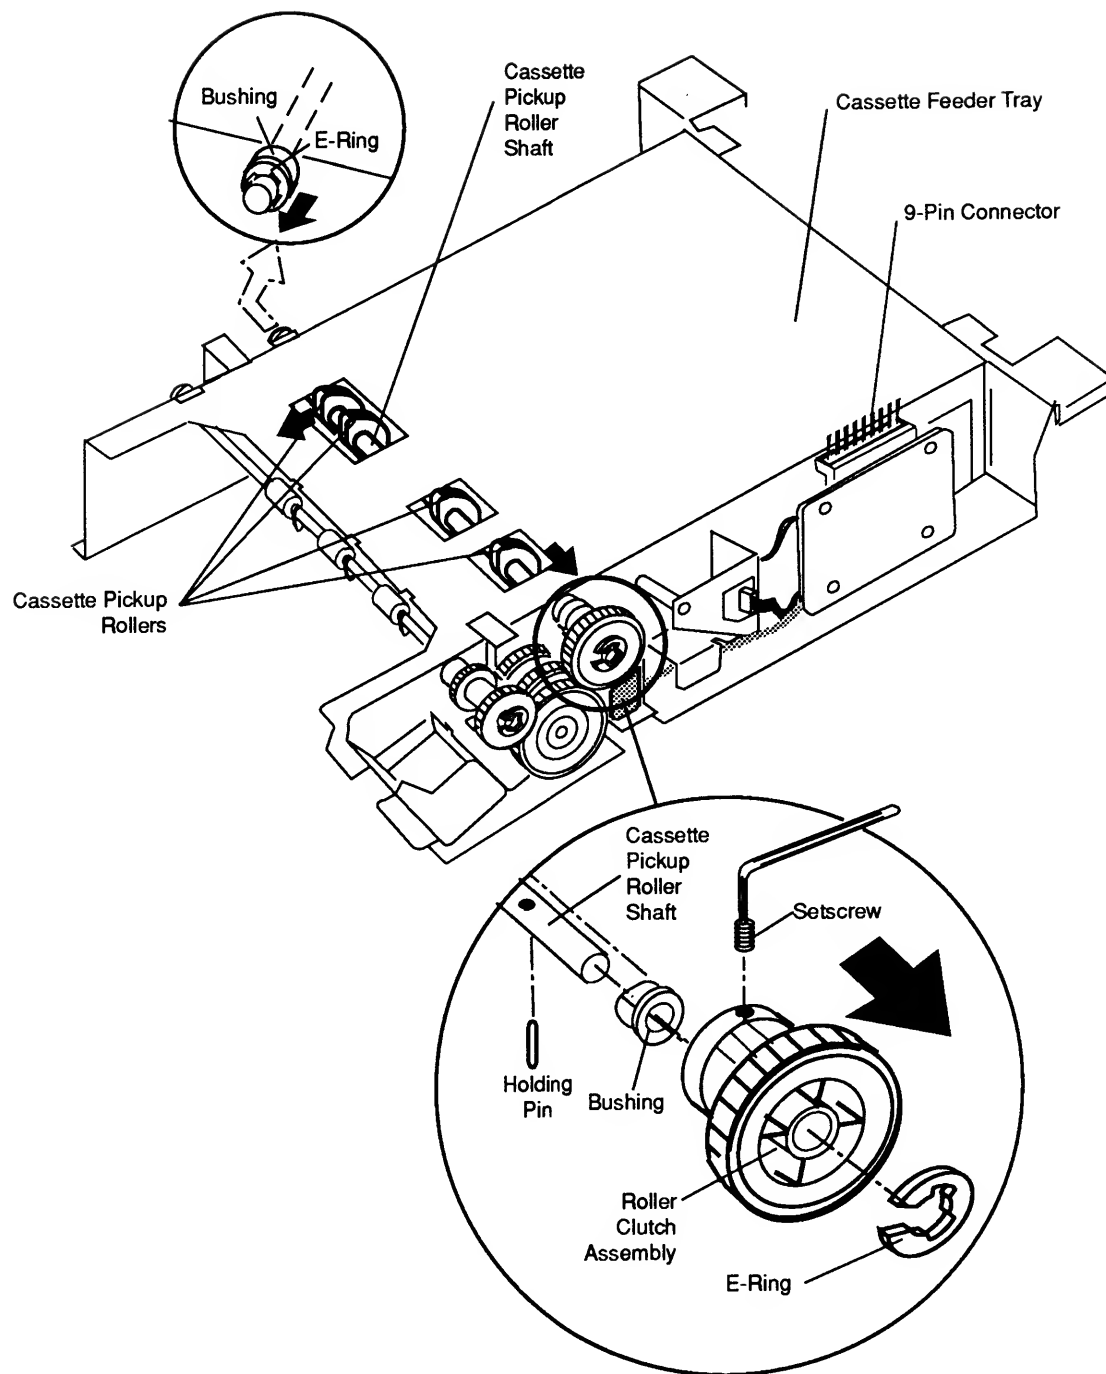

Figure 2-8 Cassette Pickup Roller Shaft
3. Turn the cassette feeder tray so that the 9-pin connector is facing upward and locate the cassette pickup roller shaft (**Figure 2-8**).
4. Using a small flat-blade screwdriver or grip-ring pliers, remove the E-rings at each end of the pickup roller shaft (**Figure 2-8**).
5. Using a 1.5 mm Allen wrench, loosen the setscrew that secures the pickup roller clutch drum to the pickup roller shaft (**Figure 2-8**).
6. Remove the cassette pickup roller clutch assembly from the pickup roller shaft (**Figure 2-8**).
8. Slide the bushings off each end of the roller shaft and remove the cassette pickup roller shaft from the cassette feeder tray (**Figure 2-8**).